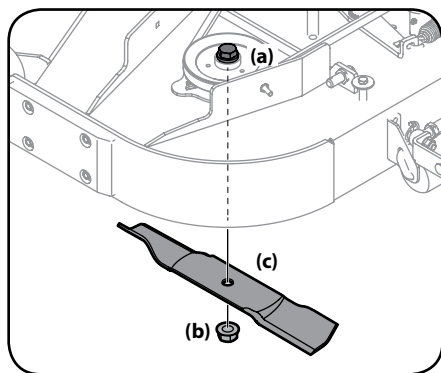

Figure 4-17
4. Use a 1-1/8" socket wrench on the pulley side of the hex screw (a) See Figure 4-17.